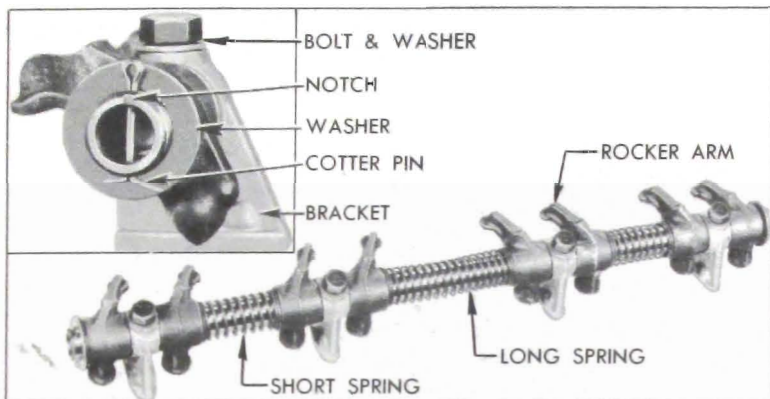

Figure 2-19—Rocker Arm and Shaft Assembly
3. Assemble springs, rocker arms and brackets on shaft as shown in figure 2-19. Note that the long spring is at middle of shaft, the valve ends of all rocker arms slant toward middle of shaft, and a bracket is located between each pair of rocker arms.
(4) Install locking plates with exhaust manifold bolts, tighten bolts only to 10-15 ft. lbs. torque, then bend one tab of plate against a flat on each bolt head.
(5) When rocker arm and shaft assembly is installed, make certain that the notch in one end of shaft is upward in line with bracket bolt heads. See figure 2-19.
(6) After installation is completed and engine has been warmed up to operating temperature, recheck cylinder head bolts for 63-73 ft. lbs. torque.